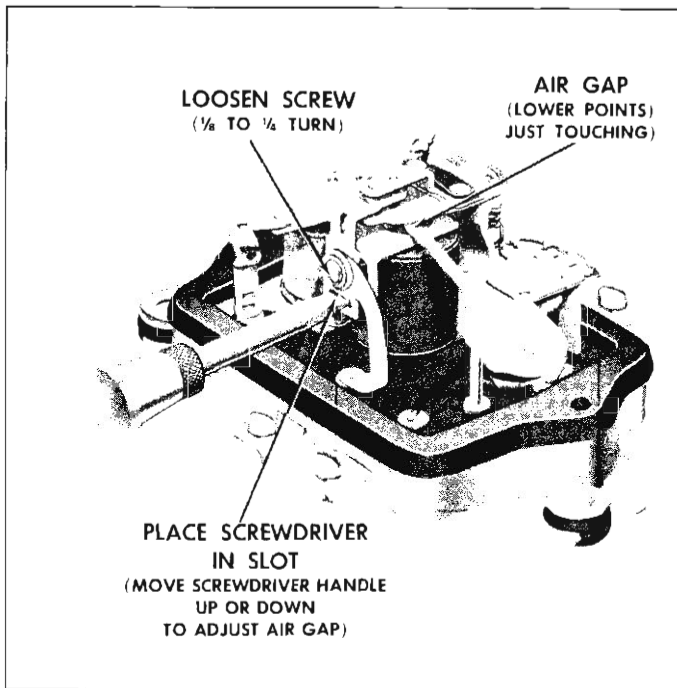
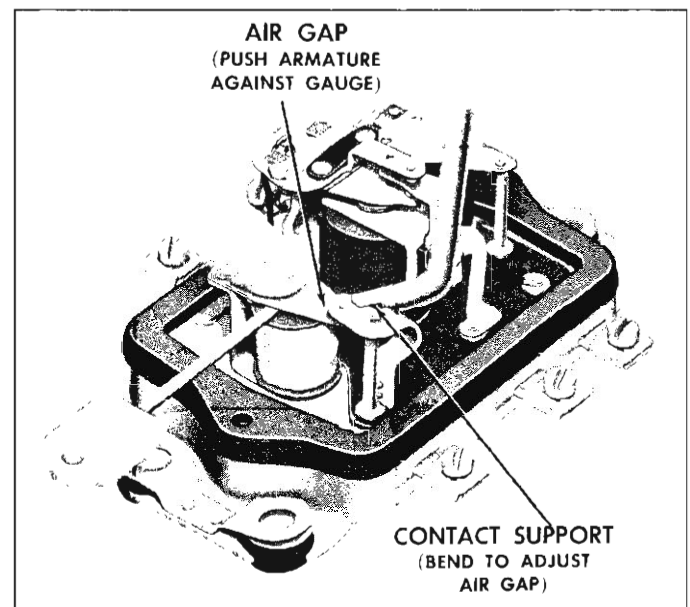

Fig. 30—Adjusting Voltage Regulator Air Gap
Fig. 33—Adjusting Indicator Light Relay Air Gap
2. **AIR GAP:** Measure the air gap between the armature and core with the lower contacts touching (fig. 30). To adjust the air gap, loosen the contact support bracket screw approximately 1/8 to 1/4 of a turn, place screwdriver in slot in contact support bracket and into the molded insulator as shown in Figure 33. Raise screwdriver handle to increase the air gap and lower handle to lower air gap.
- AIR GAP: To check the air gap, hold the armature down against a gauge of the specified thickness. The contacts should barely touch. If they do not, adjust by bending the upper contact support (fig. 33).